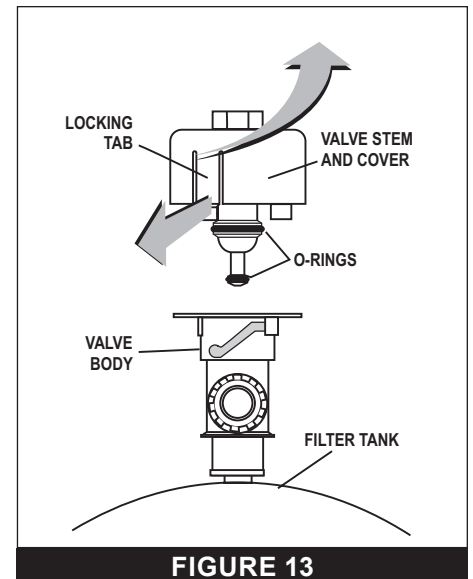

FIGURE 13
2. With the air relief valve installed, pull out the locking tabs and unlock the valve stem and cover assembly from the valve body counterclockwise (**FIGURE 13**).